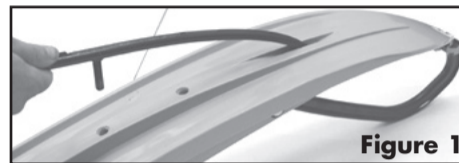

Figure 1
- Insert the front end of the runner into the runner opening or indentation provided in the ski. (figure 1) Swing the rear end of the runner to align the runner bolts with the bolt holes in the ski. Then insert the bolts through the ski. Some pressure may be required. (figure 2)